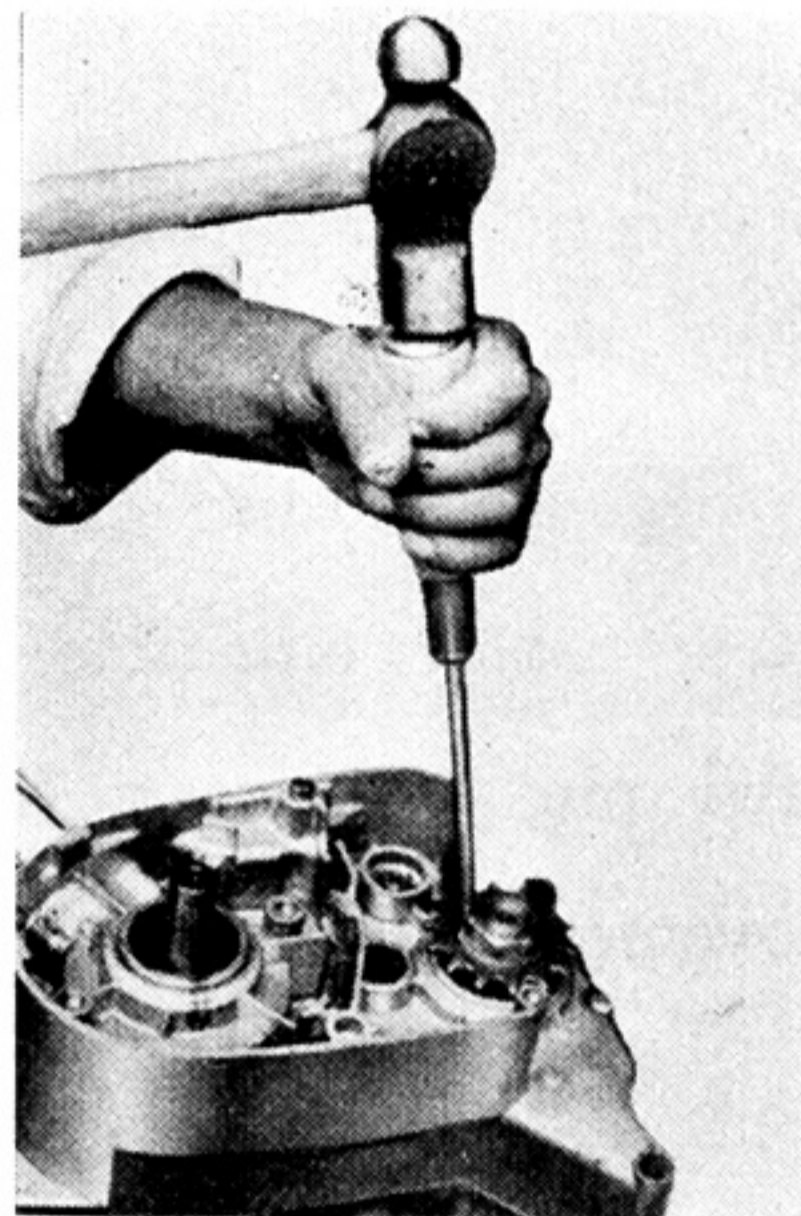

Fig. 3-12-1
- a. Straighten the bent edge of the locking washer with a chisel. (Fig. 3-12-1)